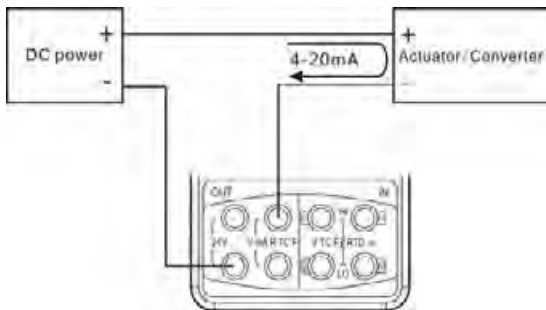
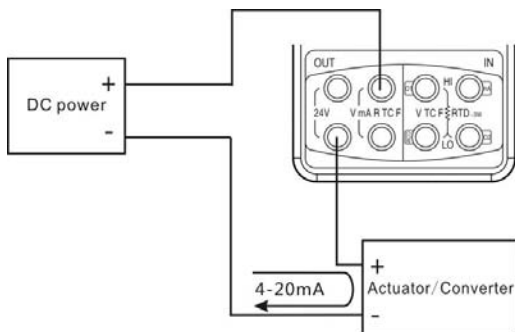

Figure 4.3a Wiring external DC power supply Sink function method (1)
Figure 4.3b Wiring external DC power supply Sink function method (2)
- 1 Connect the terminals Figure 4.2 or Figure 4.3a or Figure 4.3b.